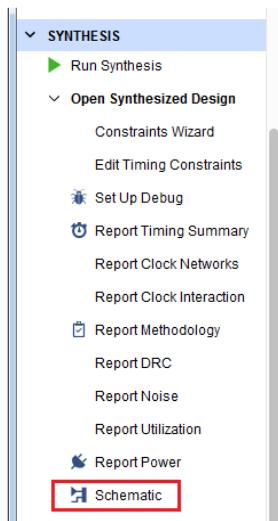

Figure 6.21: Schematic command
2. In the **Flow Navigator / Synthesis / Synthesized Design** click the **Schematic** command, see Figure 6.21.